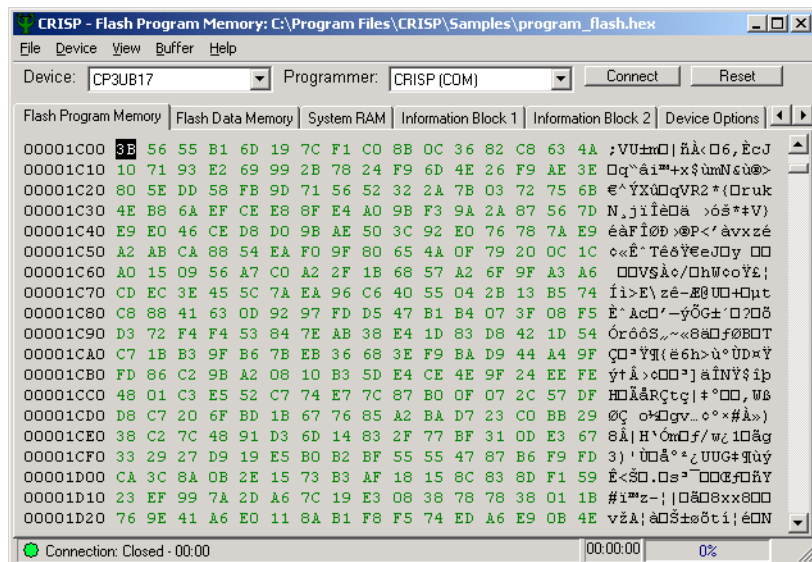

Figure 5-16. Status Bar Indicating Connection is Closed
2. **Connection Closed.** When CRISP has completed the disconnection process, the status bar will display the message "Connection: Closed", as shown in Figure 5-16.